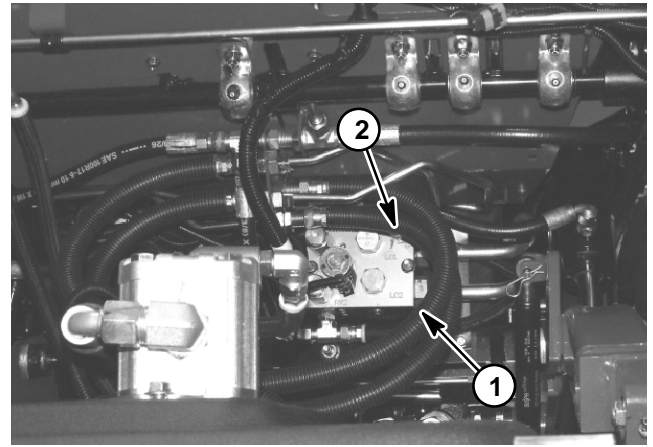

Figure 37
3. Install 5000 PSI (350 bar) pressure gauge with hydraulic hose attached to PTO manifold test port for the deck to be tested (Fig. 37, 38 or 39).